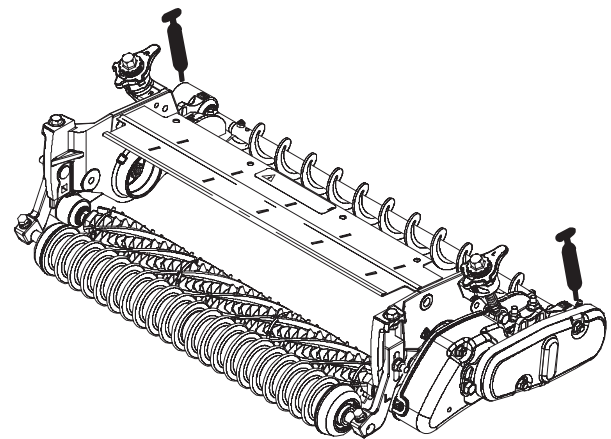

Figure 31
23. Lubricate the grease fittings on each of the roller brush bearing housings and on the remainder of the cutting unit with No. 2 General Purpose Lithium Base Grease (Fig. 31). Wipe off any excess grease, specifically around the excluder seals.